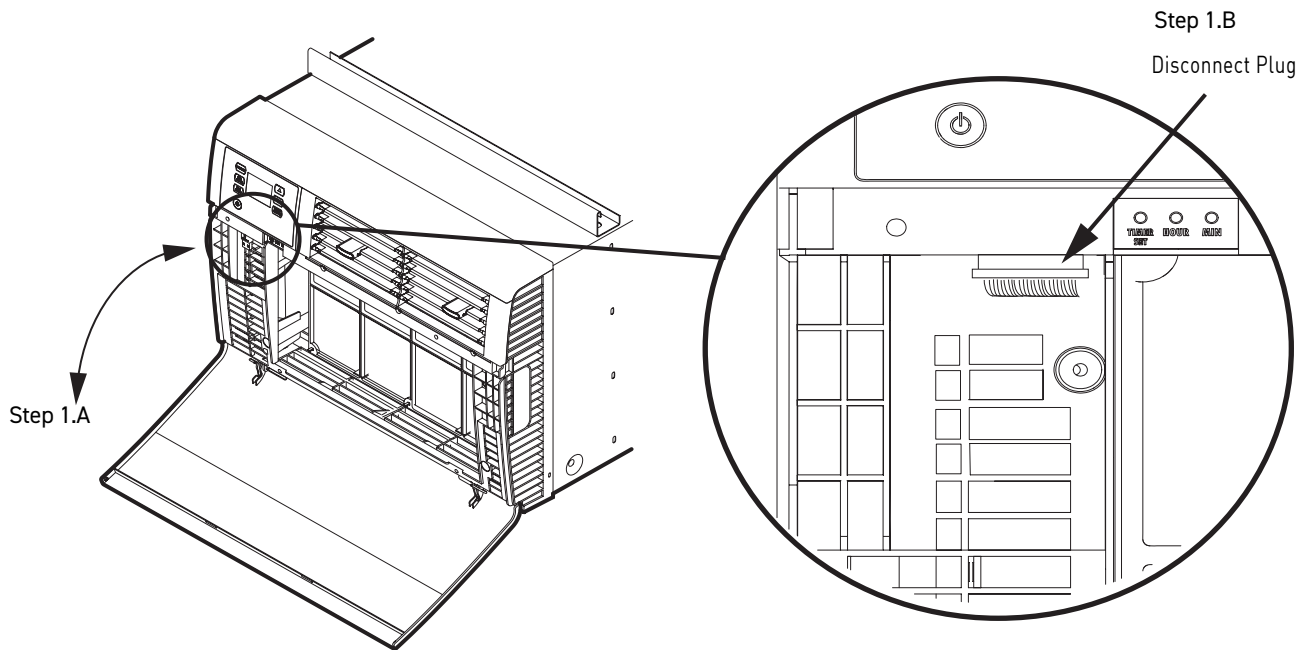
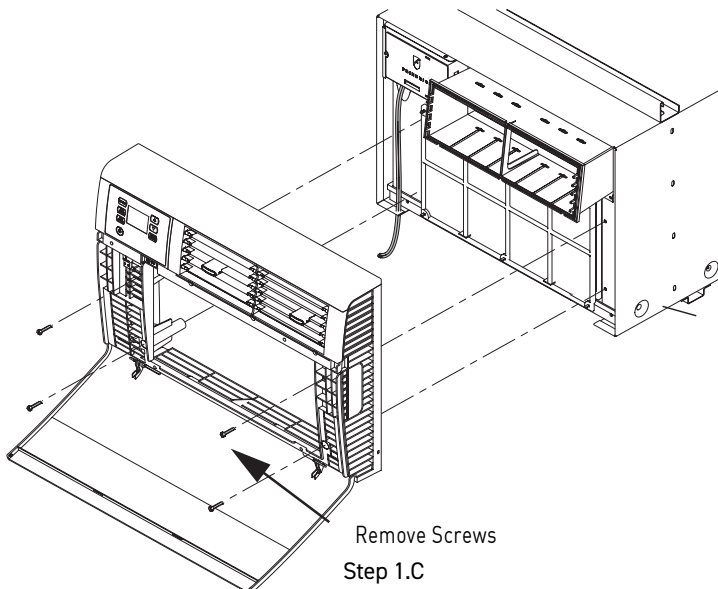

Figure 410
Figure 411
1. Swing the door open, See Figure 410, and remove the filter by grasping the filter grips and pulling the bottom towards you. . See Figure 411.